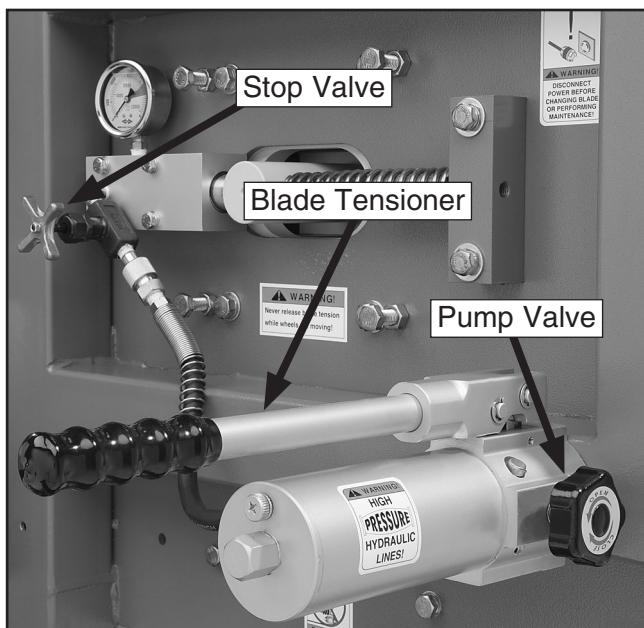

Figure 16. Blade tensioner controls.
- Loosen the stop valve (**Figure 16**) and tighten the pump valve.
- Tighten the blade with the blade tensioner shown in **Figure 16**. Use the colored area on the tension gauge as a proper tension guide for your specific blade material.